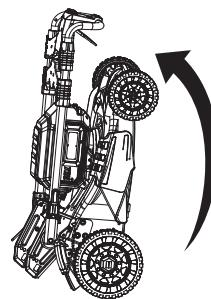

Fig.13D
6. Store the lawn mower in the folded upright position. Ensure the lawn mower is stable and placed on a flat, even surface to prevent it from tipping over (Fig. 13D).